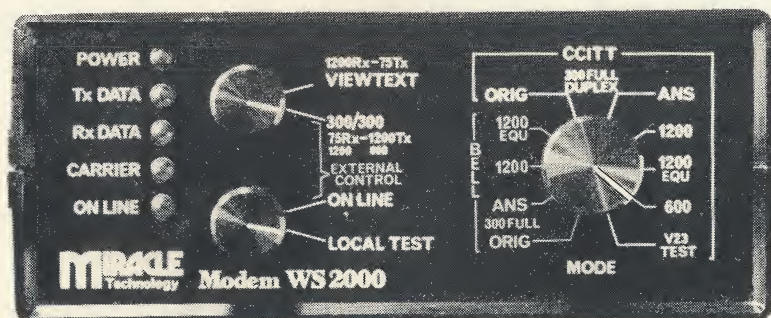
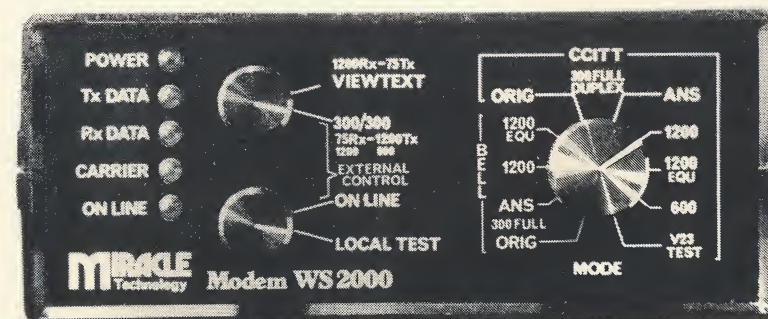

Figure 7
Figure 8
5.4 For 600 baud half duplex operation, set the switches as in Figure 7, and for 1200 baud half duplex use as in Figure 8.
So one end of a data link may be a modem using the standard Viewtext setting of 1200 baud receive, 75 baud transmit, and the other end may be a WS2000 operating the reverse settings. This means that a WS2000 may be used to communicate user to user, in full duplex, with such devices as Prestel and Micronet Adaptors, many of which can normally only be used for Viewtext database applications. The settings for using a WS2000 to communicate with a standard Viewtext Adaptor are as in Figure 8.